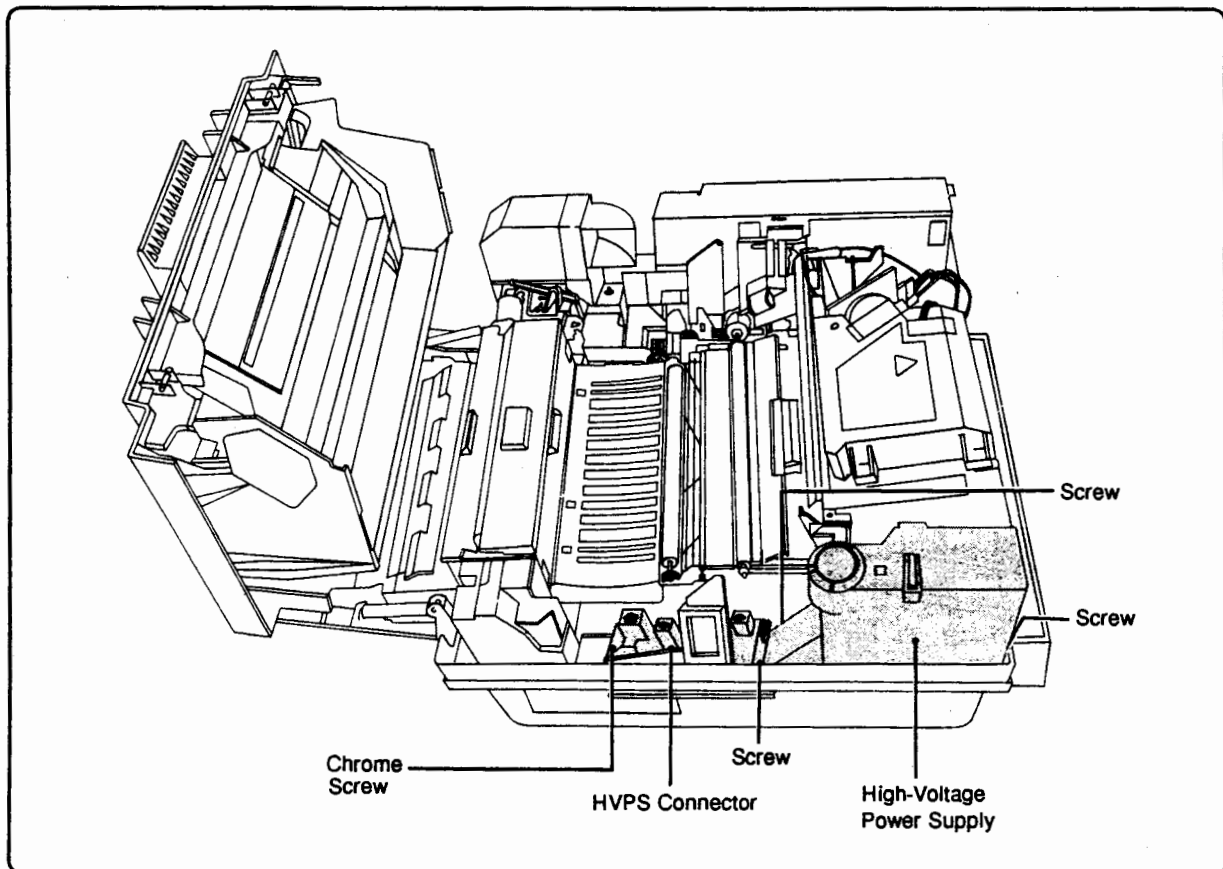

Figure 6-21. High-Voltage Power Supply Assembly
2. Remove the screws (2) that secure the High-Voltage Power Supply and the screws (2) that secure the High-Voltage Power Supply Connector, and remove the assembly from the printer (see Figure 6-21).